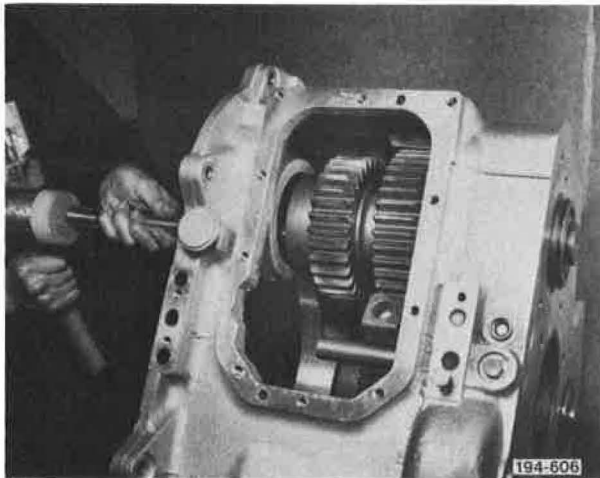

Figure 5-725. Driving Countershaft Rearward
14. Drive rear countershaft rearward, using a suitable driver, to provide access to rear bearing positioning snap ring. See Figure 5-725.